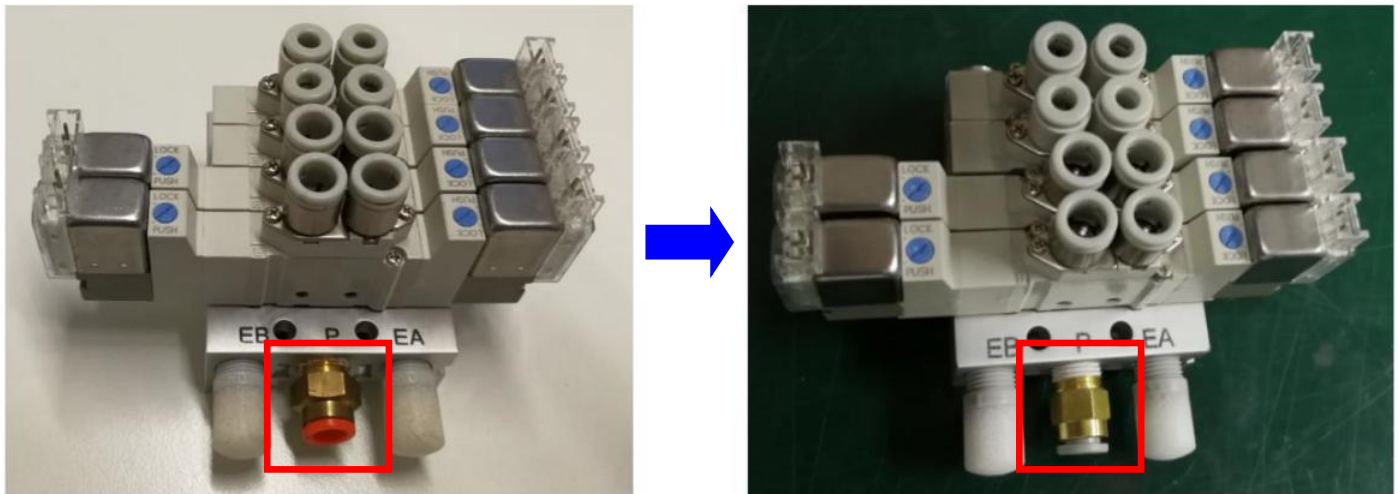

Figure 9 Metric Inlet Port Swapping
8. Replace new 4XASP-A087 (XXL Valve Assembly) at Fix Rail. Tighten 4 x Screws as below Figure 9